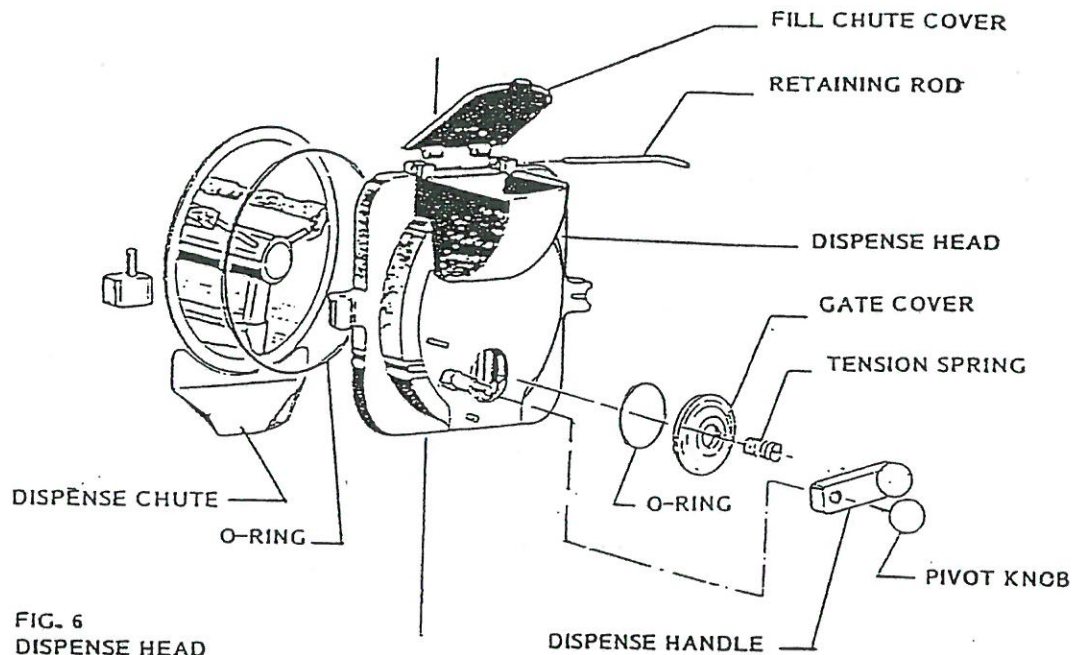

FIG. 6
2. Proceed with the disassembly by removing the dispense head (Ref. Fig. 6).
B) ASSEMBLING THE DISPENSE HEAD (Ref. Fig. 6).
1. Begin by gathering all of the parts required to assemble the DISPENSE HEAD. These parts include: one (1) dispense head o-ring, dispense head, fill cover, fill cover retaining rod, gate cover, gate cover o-ring, tension spring, dispense handle and retaining knob.